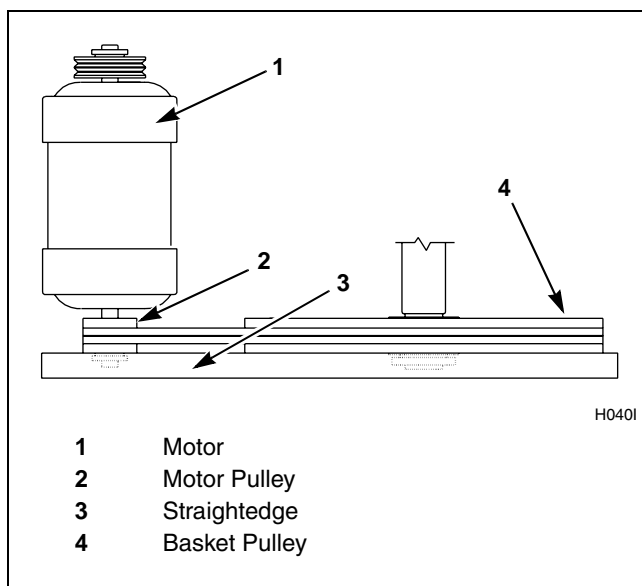

Figure 11
- b. For groove-pulley drive systems, verify alignment by placing a straightedge across both pulley faces. The straightedge should make contact with the pulleys in four places. Refer to *Figure 11*.